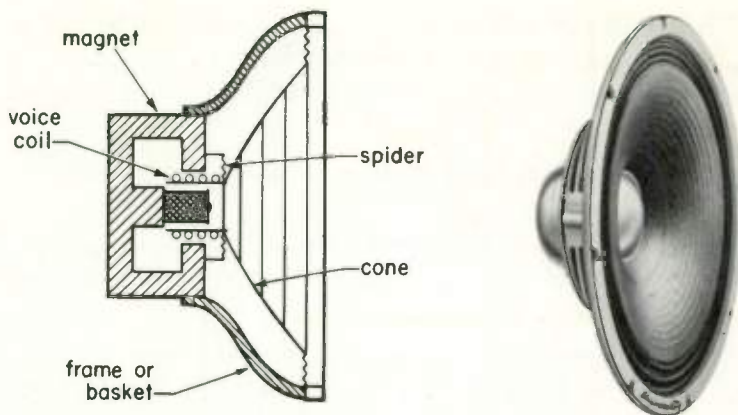

Fig. 27 The dynamic loudspeaker. (Courtesy: University Loudspeakers.)
20 LOUDSPEAKERS . . . The most commonly used type of loudspeaker, by far, is the *dynamic loudspeaker*. Its basic construction and external appearance are shown in Fig. 27. The signal voltage from the output of the power amplifier is fed to the *voice coil*, where it creates a flux that varies with the audio signal. This varying flux combines with the flux of the permanent magnet, setting up a force which moves the voice coil back and forth along its axis. Since the voice coil is rigidly attached to the cone, the cone also moves back and forth, and the resulting air-pressure vibrations produce the sound waves.
3. With reference to Fig. 27, the audio signal is fed to the (a) _____. Sound is produced by the vibrations of the (b) _____. The (c) _____ keeps the moving mechanism from rubbing against the magnet structure.